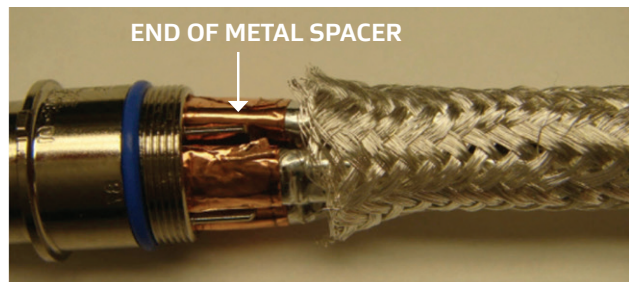

Figure 37: Trimming the braid
13. Gently slide the braid back toward the connector, and trim any excess where the braid meets the metal spacers in the connector (Figure 37).